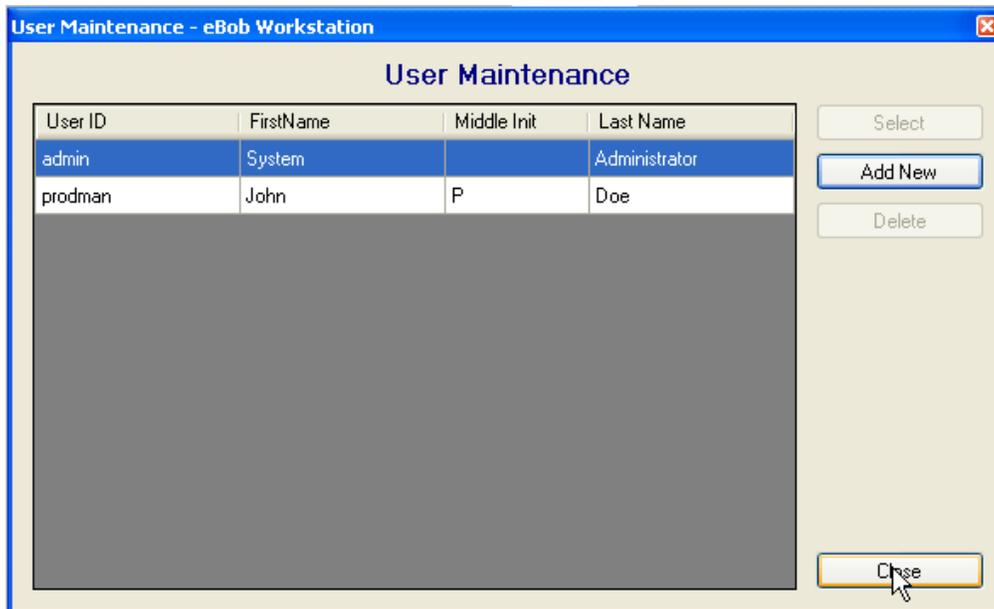

Figure 8
**User Maintenance** Creates users and sets permissions level for different system users. Add a new user by clicking Add New (Figure 8). Select an existing user by clicking and highlighting the user in the list and clicking Select, or double click the user in the list to bring up the User Setup screen.